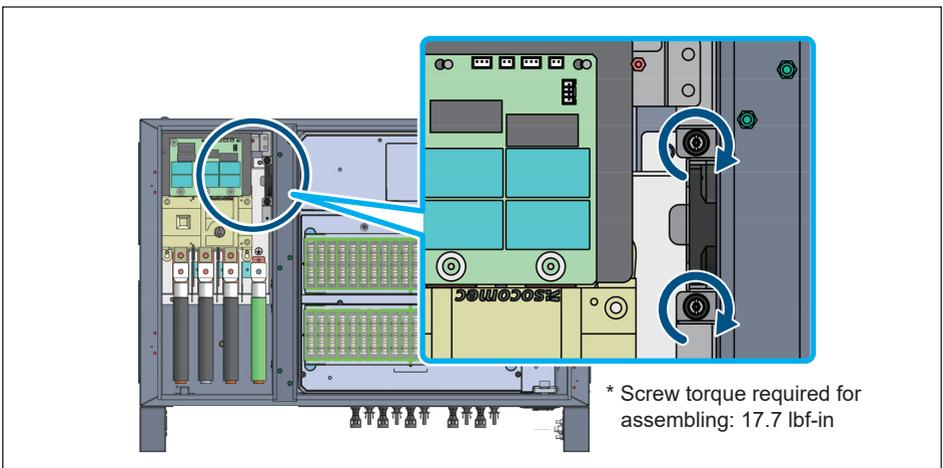

Figure 5-21: Internal Fan 2 location
- (2) Remove the two screws shown in **Figure 5-21**.
- (3) Disconnect the fan power connector.